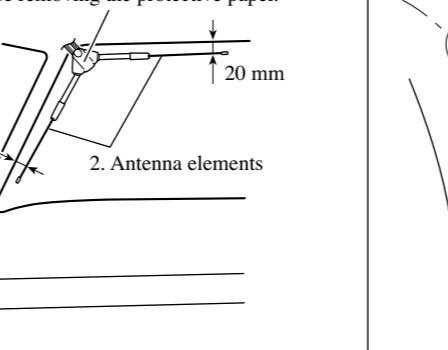

Fig. 7
**1. Decide on the location for the main body. (Fig. 7)**